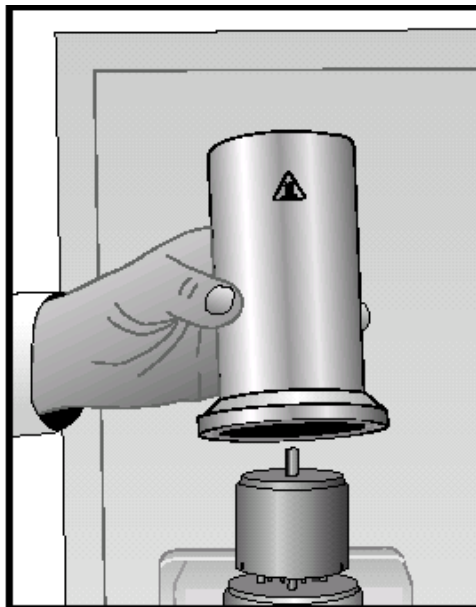
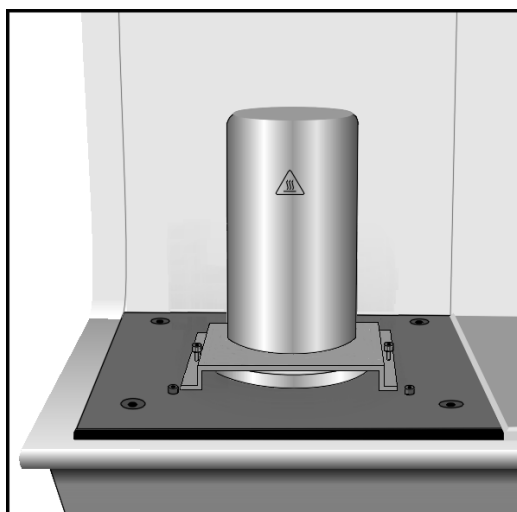
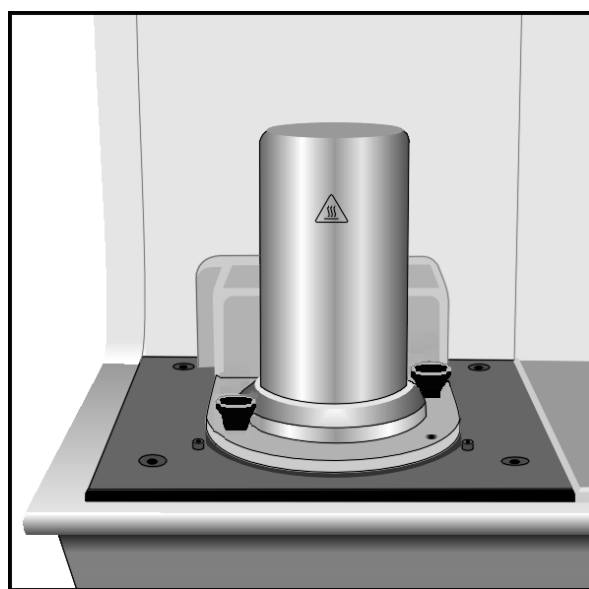

Figure 6
Figure 7
Figure 8
- b. *Without a heat exchanger:* Install the metal bell jar over the cell. Then install the appropriate safety device for your instrument—the hold-down bracket for the DSC 2010 (see Figure 7) or the hold-down knobs for the DSC 2920 (see Figure 8). This will ensure that the metal bell jar provides the desired safety enclosure.
DSC 2XXX Series Instruments: Be sure to use the supplied safety devices, as shown in Figures 6 through 9 on pages 26 through 28, when running any experiments or calibrating with the high volume pans.
When using the DSC without a heat exchanger you must install the metal bell jar on the DSC 2920, 2910, or 2010 instruments as shown in Figure 6, then secure it using either the bracket (2010) or hold-down knobs (2910 and 2920). See Figures 7 and 8.